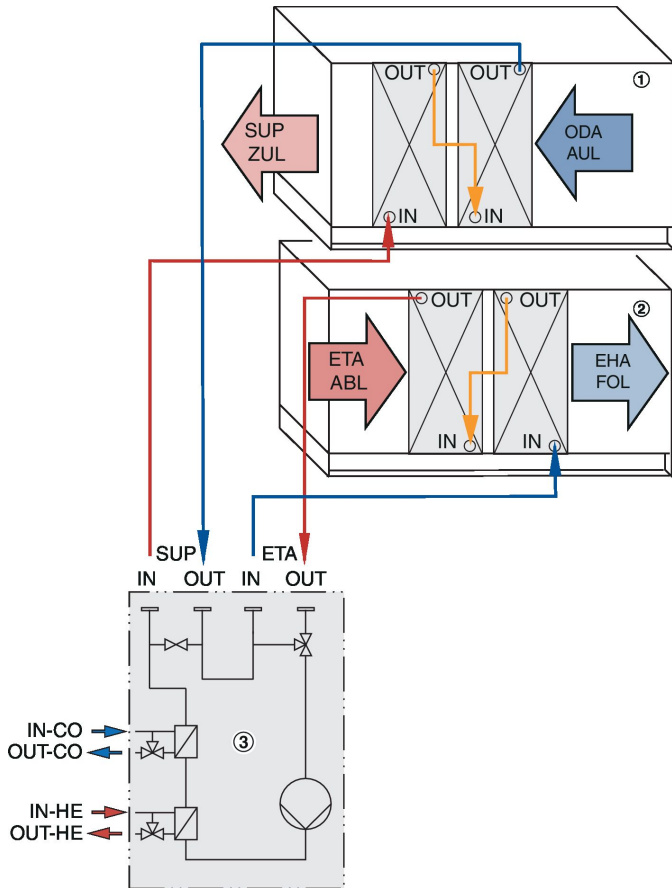

Fig. 38: Hydraulic system connection (example)
- ① Supply air unit
- ② Extract air unit
- ③ hydraulic unit
3. ▶ Connect the heat exchanger with the hydraulic unit ( Fig. 38 ).
4. ▶ Run-around coil systems with external feeding: Make the required connections ( Fig. 38 ).